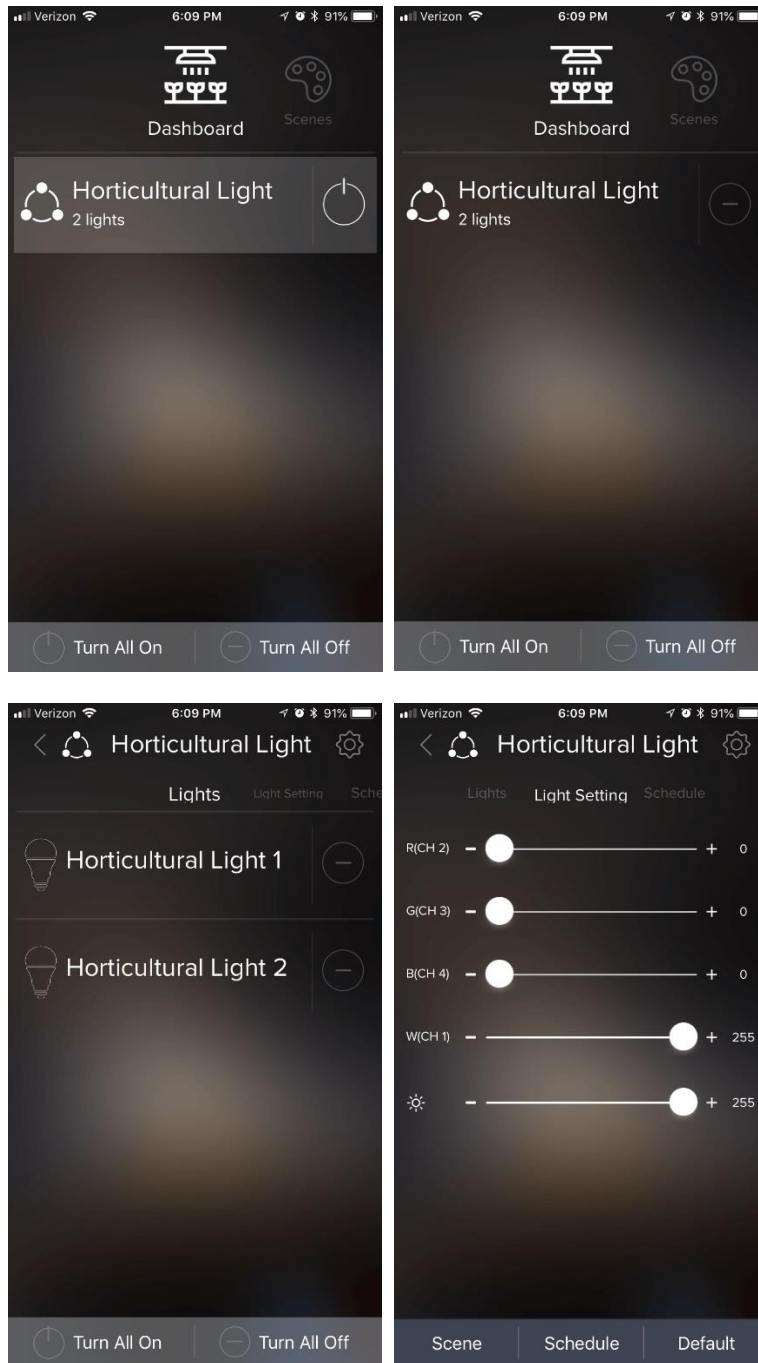

Figure 5-4 Dashboard Control and Brightness Control Screens
5.2.2 Click the “Horticultural Light” button from Dashboard items, to take you inside the Group level and show all of the commissioned SLCs in this Group. Scroll left to the Dashboard screen to control and vary brightness of individual channels as shown in last image of Figure 5-4. The Brightness bar present at the bottom allows users to control the brightness of all the connected channels.